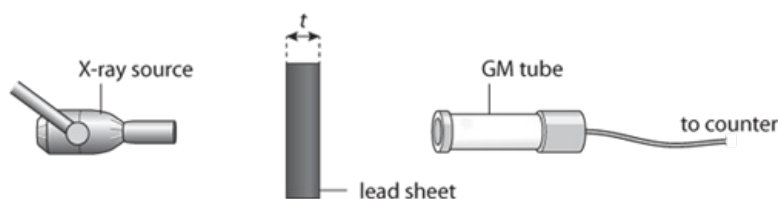

Figure 16.3: X-ray source, lead sheet and radiation counter.
The apparatus that they use is shown in Figure 16.3, and contains an X-ray source and a Geiger-Muller (GM) tube connected to a counter. A piece of lead is placed between the GM tube and the X-ray source. The counter gives a measure of the number of X-ray photons entering the tube in the time for which the count is made. The physicist knows that about 5 mm of lead halves the count rate for these X-rays.
List the equipment needed, apart from that shown in Figure 16.3. Include the name of the instrument to be used to measure t .